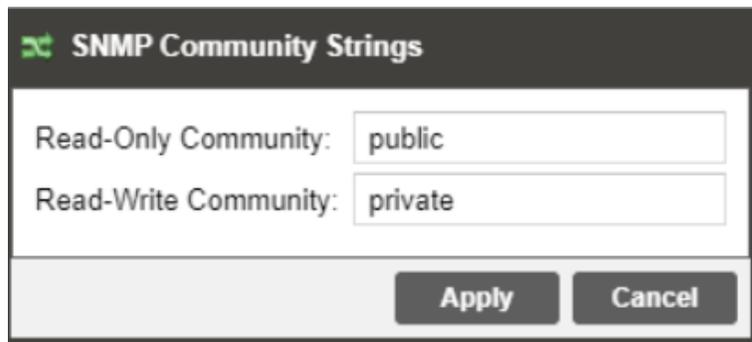

Figure 42: SNMP Community Configuration Menu
**Configure SNMP Communities** button as shown in Figure 42.